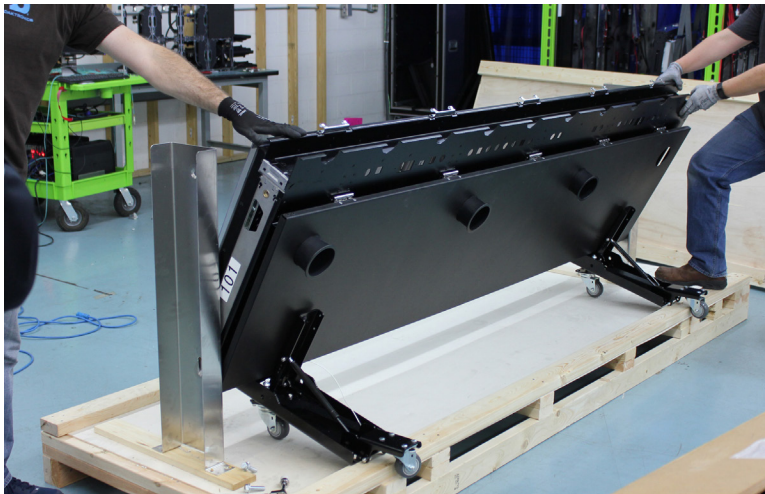

Figure 15: Tilt Table Backward
4. Tilt the table backward so that the caster base/wheels are resting on the crate. Refer to **Figure 15**.